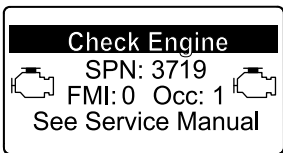

Figure 74
- Engine warning SPN 3719, FMI 0 (Figure 74)